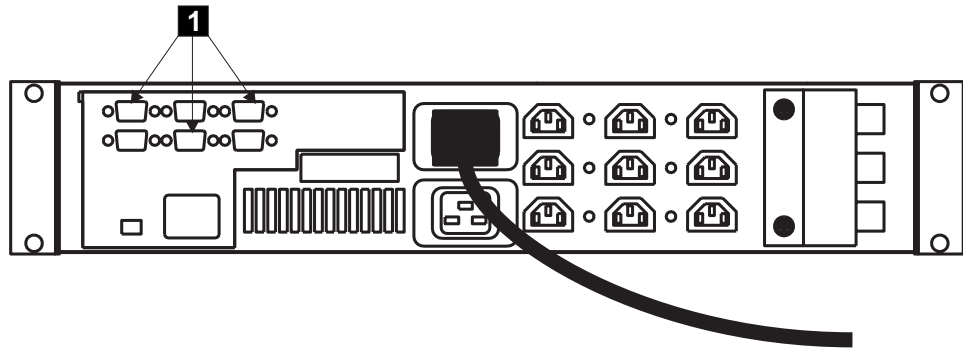

Figure 171. Disconnecting the 2145 UPS signal cables
2. At the back of the 2145 UPS, disconnect the signal cables. See **1** in Figure 171.